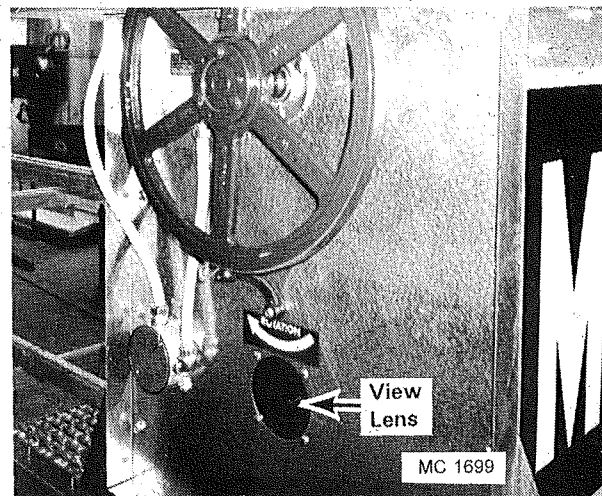

Figure 25
5. The level auger should start before the grain level appearing in the front View Lens of the wet holding hopper only covers the bottom half of the Lens. See Figure 25.